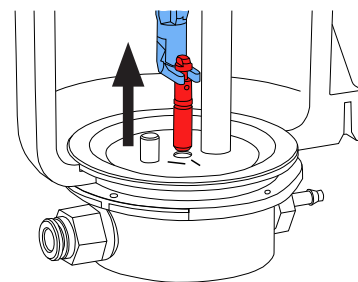

Fig. 13
- ⇒ Hold the dosing nozzle with the tool and pull upwards (Fig. 13).